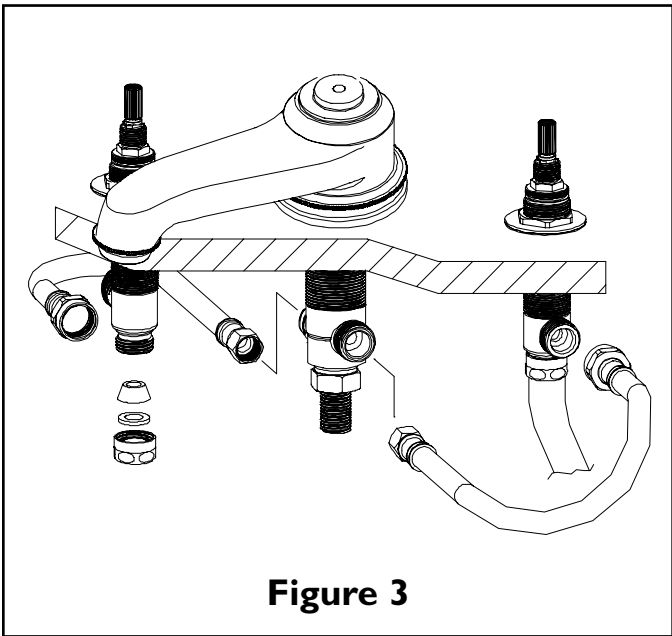

Figure 3
5. Connect a flexible hose to side outlet of each valve body. Attach other end of hoses to either side of the tee. (Hand-tighten and secure each connection with a wrench 1/4 turn.) See Fig. 3
6. Attach hot/cold water supply hoses (not included) to appropriate valve, utilizing cone washers, friction rings and nuts supplied. See Fig. 3